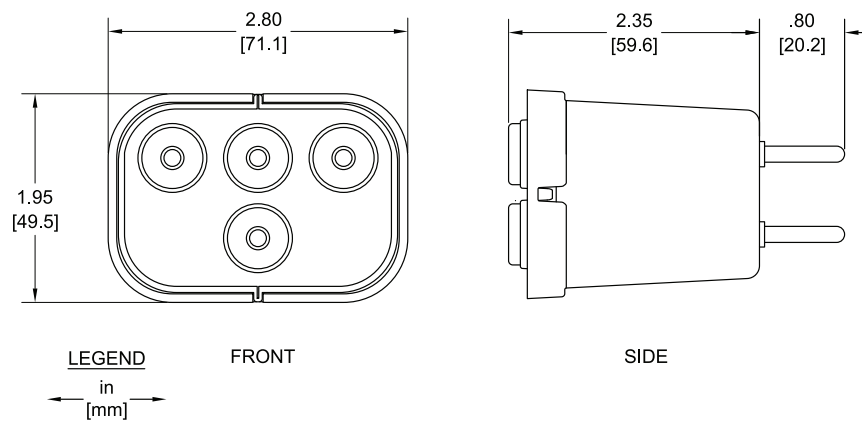
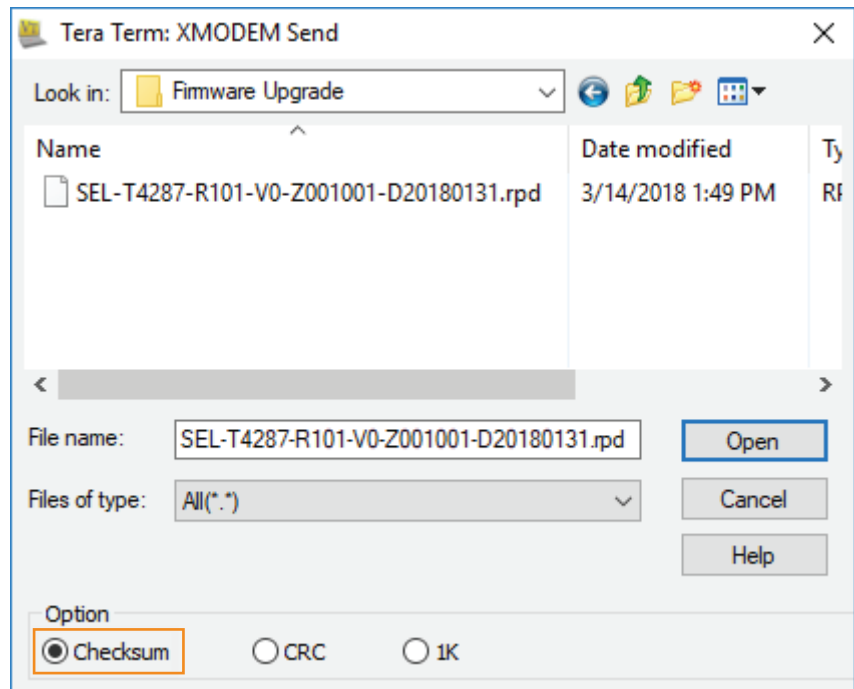

Figure 15 Voltage Module Dimensions
Figure 16 Tera Term (Version 4.84) Window Where the Firmware File to Send Is Chosen and the Checksum Xmodem Protocol Is Selected
20181206	<ul style="list-style-type: none"> ➤ Updated Product Overview. ➤ Updated Input and Output Connections in Connections. ➤ Updated Number of Terminals (NTERM) in Functional Description. ➤ Updated Testing the TW32 Element in Applications. ➤ Added Figure 15: Voltage Module Dimensions. ➤ Updated Halfway Decay Time in Specifications. ➤ Added Figure 16: Tera Term (Version 4.84) Window Where the Firmware File to Send Is Chosen and the Checksum Xmodem Protocol Is Selected. ➤ Added Appendix D: SEL ASCII Commands and SEL-T4287 Test Set Command Summary.
Step 5. Browse in the terminal program to the location of the new firmware file. Use the Checksum Xmodem protocol, as shown in *Figure 16*, for fast transfer of the new firmware to the test set.